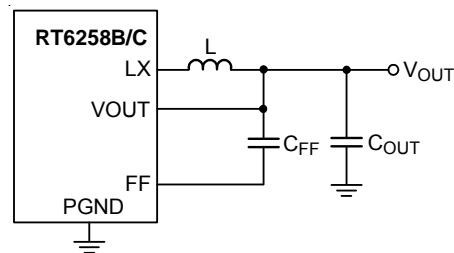
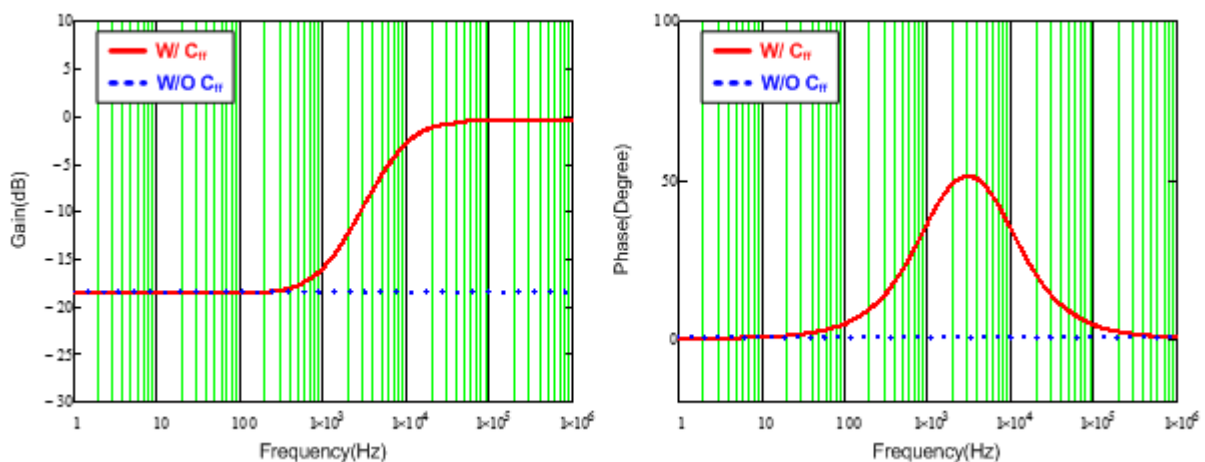

Figure 3. Feedback Loop with Feedforward Capacitor
Figure 4. Bode Plot with Different Feedback Loop Conditions
For saving time to design compensator and reducing the layout area through external components, the components of compensator are integrated in IC. However, this integrated compensator might not suit to every load transient spec. Hence, for the RT6258B/C to be more adaptable, the feedforward capacitor C_{FF} is used in the feedback loop to improve transient response, as shown in Figure 3. Figure 4 shows the comparison result of bode plot with different feedback loop conditions. Referring to Figure 4, through connecting a C_{FF} in feedback network, the gain and phase are raised in mid-frequency that not only can extend the bandwidth, but boost the phase margin as well. Moreover, there is also a high frequency pole to eliminate high frequency noise. Consequently, those features of feedforward feedback network allow the RT6258B/C have faster response to handle different load transient.
Observing Figure 4, the maximum phase boost occurs between zero and pole frequencies that is defined as maximum phase boost frequency, as expressed in equation (4). Hence, in order to achieve the maximum phase boost by adding C_{FF} in the RT6258B/C, the system's original bandwidth has to be located at maximum phase boost frequency.